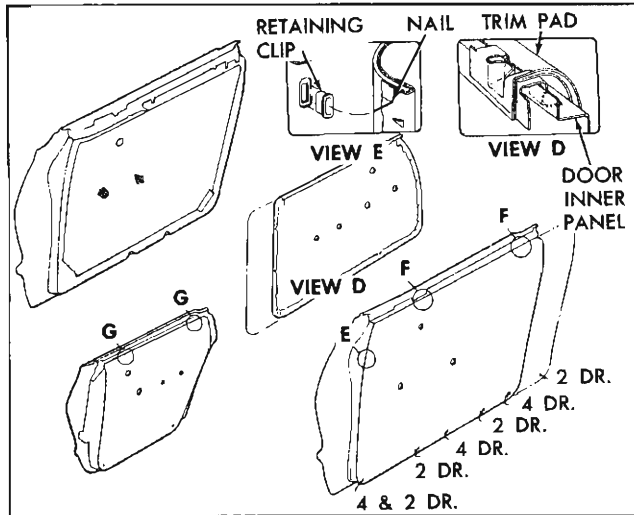

Fig. 15—Door Trim Assembly
All door trim assemblies are the hang-on type and are further secured by attaching screws along bottom edge and by retaining nails inserted into plastic retaining cups in the door inner panel (see Views “D” and “E” in Figure 15).
2. Remove screws securing trim assembly to door inner panel (fig. 15).